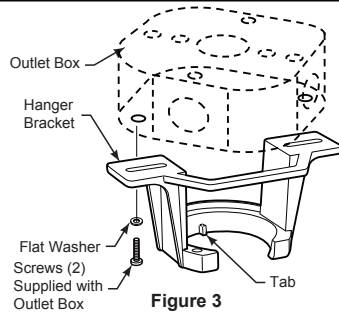

Figure 3
Deep box with brace (Figure 3)
- 3. Loosen the two set screws and locking nuts in the downrod support of the motor assembly. Route the brown, blue, red, gray, yellow wires through the downrod. (Figure 3)
1. Securely attach the hanger bracket to the outlet box (not included) using the outlet box screws and washers supplied with the outlet box. (Figure 3)
2. Slide the receiver into the hanger bracket before wiring as shown in figure 3.